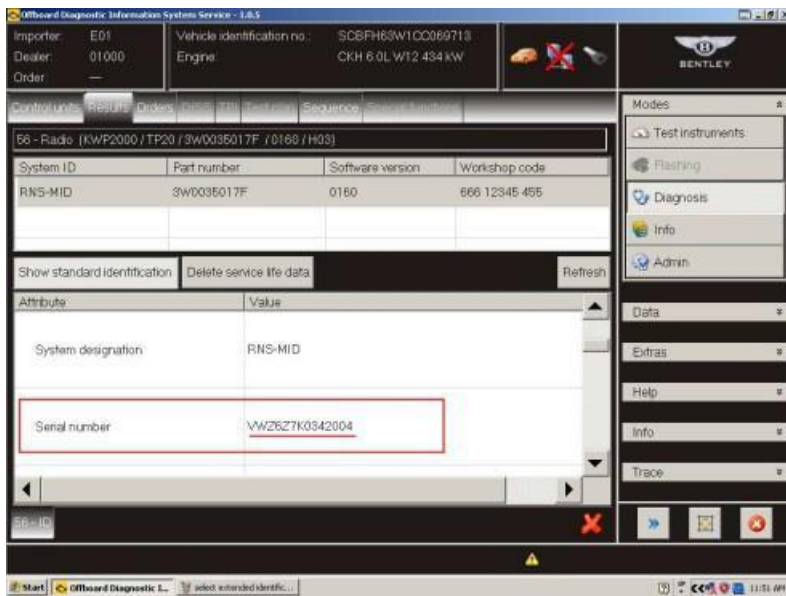

Figure 6
8. Scroll down to display the required 14 digit *Serial number* (CRIN)(see Figure 6)